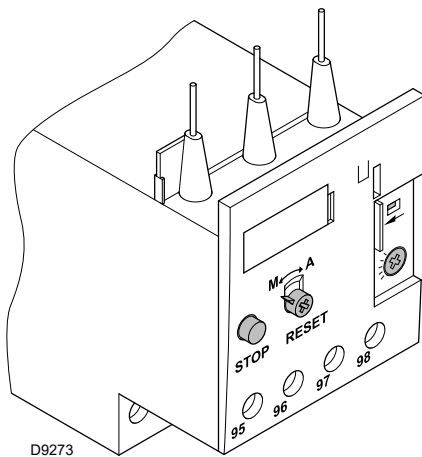

Fig. 29
The electro-mechanical overload relay (Fig. 29) is used to avoid damage to the motor owing to a strong increase in absorption or the lack of a phase.
- To reset, in the case of an intervention of the overload relay, press the button **"RESET"** (Fig. 29).
- The button **"STOP"** (Fig. 29) opens the NC (95-96) contact and stops the motor.